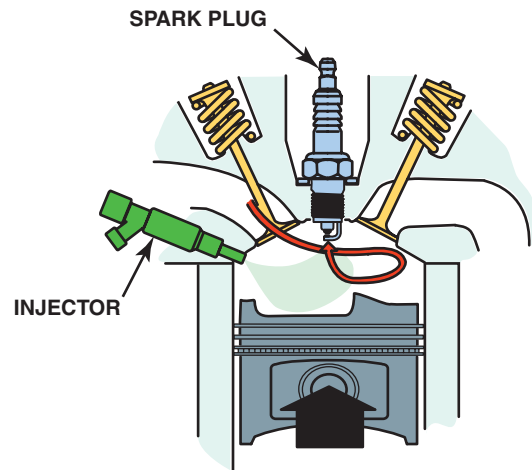

FIGURE 79-8 The piston creates a tumbling force as the piston moves upward.
- **Tumble combustion.** Depending on when the fuel is injected into the combustion chamber, helps determine how the air-fuel is moved or tumbled. ● **SEE FIGURE 79-8.**